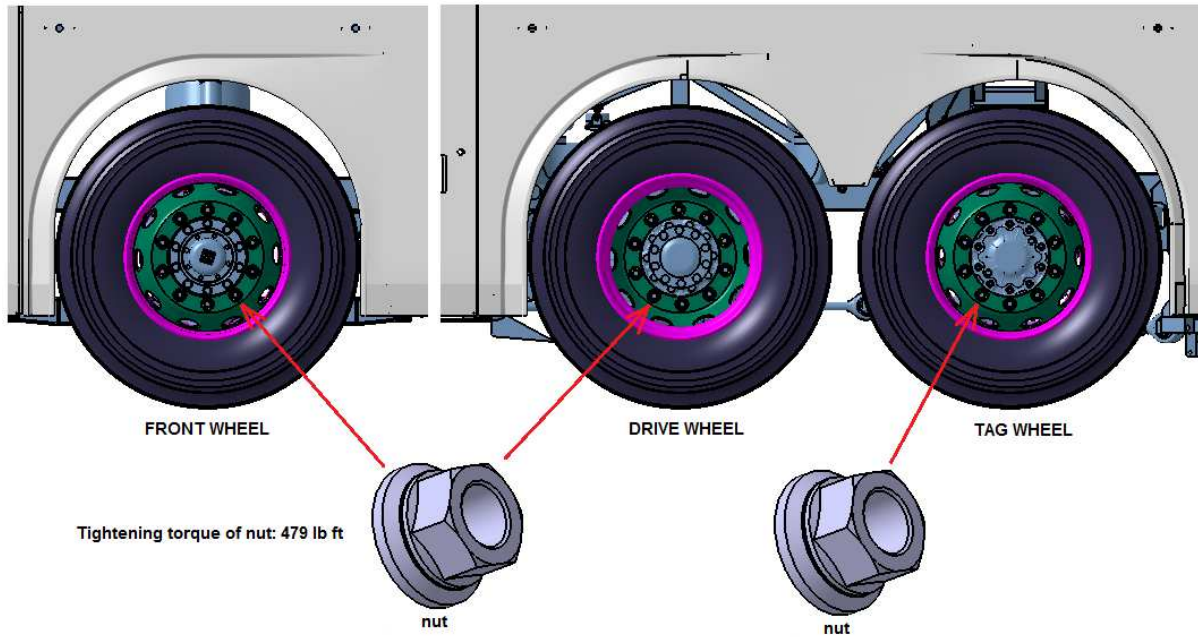

Figure-13
* Install and fix all the nuts with the given tightening torque (479 lb ft) shown in Figure-13.